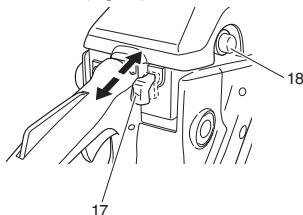

Fig. 12
2. Pull the choke lever (17) fully (Fig. 12).
*Push priming pump (18) several times so that fuel flows through bulb into carburetor. (Fig. 12)
4. When you hear first ignition, push the choke lever (17) fully. (Fig. 12)